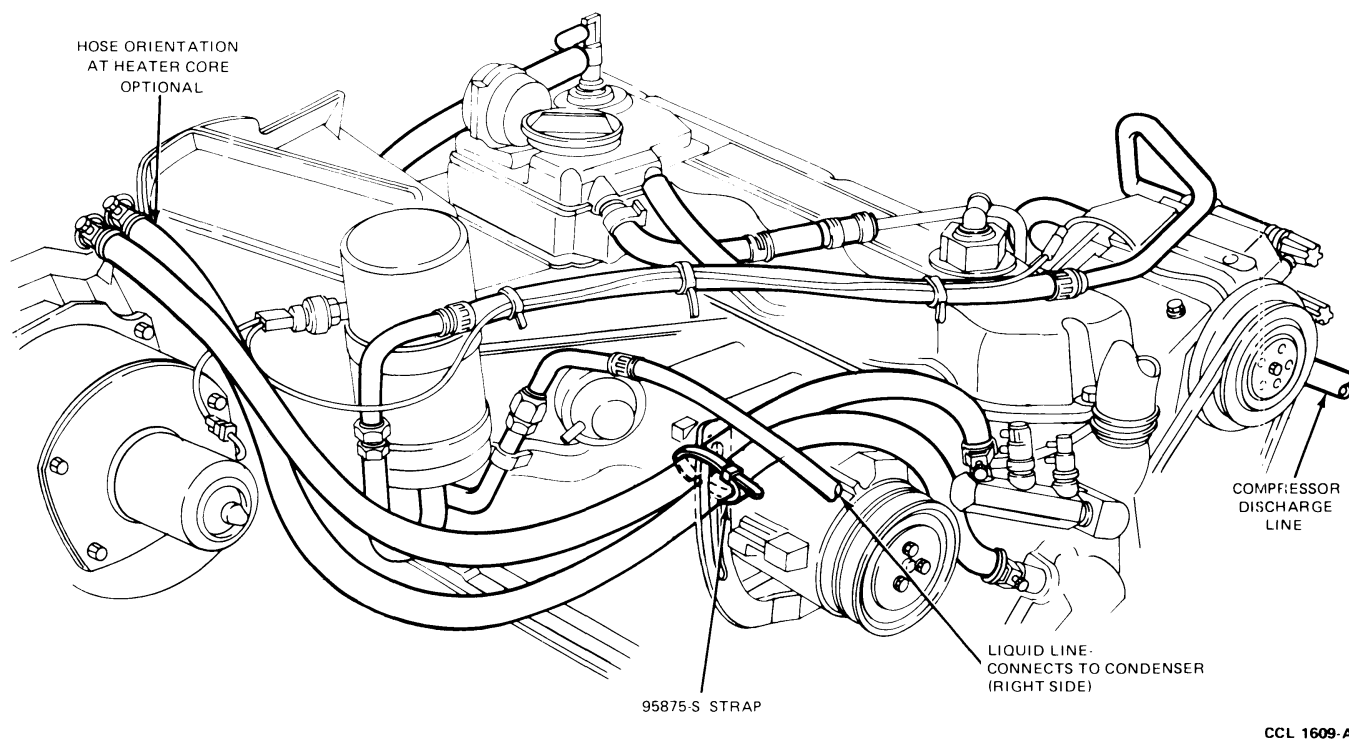

Fig. 24 — Refrigerant Lines and Heater Hose Routings — 4.9L Engine
3. Route the new refrigerant line (with protective caps installed) as shown in Figs. 24, 25, 26 and 27).
4. Route the heater hose(s) as shown in Figs. 24, 25, 26 and 27.